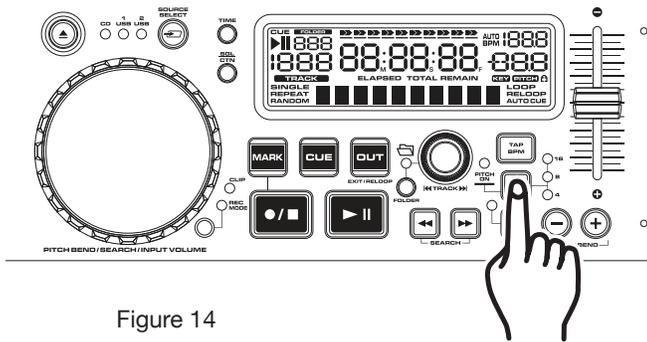

Figure 14
You may choose a pitch operating range at any time. To change the operating range be sure the pitch function is turned on, see figure 14. The pitch percentage can be changed between +/-4%, +/-8%, +/-16%, and 100%. 4% will allow the least amount of pitch manipulation and 100% will allow the most amount of pitch manipulation. To adjust the different values, press the *PITCH ON/OFF BUTTON* (11) and Tap on the % *BUTTON* (11) until your desired value is reached. The L.E.D. of the % *BUTTON* (11); glowing red for 4%, glowing yellow for 8%, or glowing amber for 16%, and all LEDs glowing for 100%.